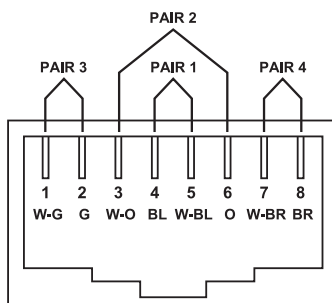
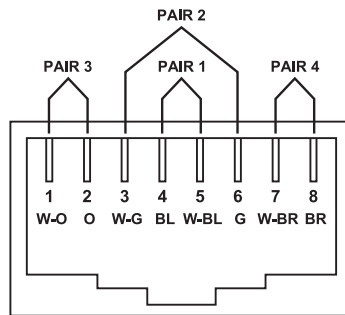

FIGURE B-2. T568A WIRING
FIGURE B-3. T568B WIRING
RJ-45: The Registered Jack (RJ) physical interface is what connects the network cabling (CAT5) to the local unit and the remote unit. You may use either the T568A scheme (see Table B-1 and Figure B-2) or the T568B scheme (see Table B-2 and Figure B-3) for cable termination. RJ-45 connectors are sometimes also referred to as 8P8C connectors.